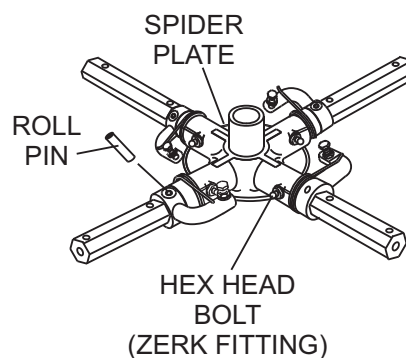

Figure 42. Removing Roll Pin and Zerk Grease Fitting
1. Each trowel arm is held in place at the spider plate by a hex head bolt (zerk grease fitting) and a roll pin. Remove both the hex head bolt and the roll pin (Figure 42) from the spider plate.